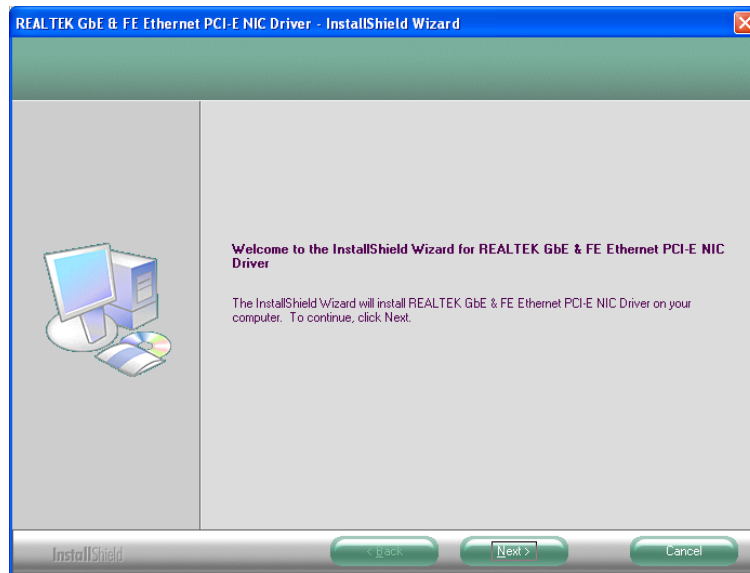

Figure 7-20: LAN Driver Welcome Screen
Step 3: The **Welcome** screen in **Figure 7-20** appears.